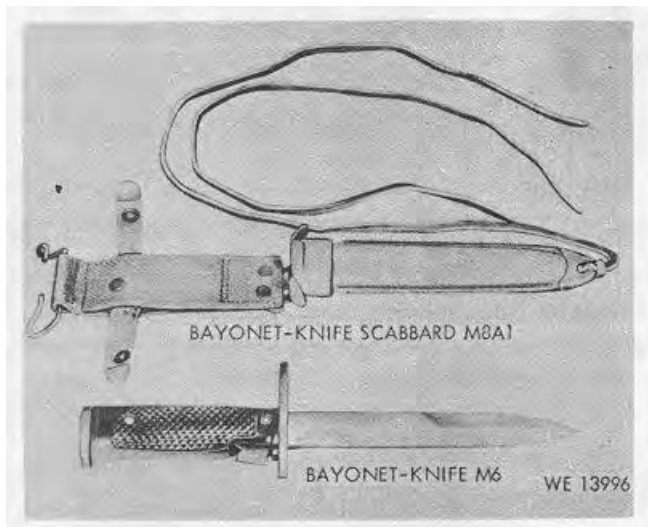

Figure 1-11. Bayonet-Knife M6 and Bayonet-Knife Scabbard M8A1.
d. The Bayonet-Knife M6 (fig. 1-11) is used in conjunction with Rifle, M14 for close combat. It connects to the bayonet lug of the flash suppressor and a closed loop in the handle encircles the flash suppressor (-fig. 1-4).
e. The bayonet-knife scabbard (fig. 1-11) serves as a carrier for the bayonet when it is not assembled to the rifle.